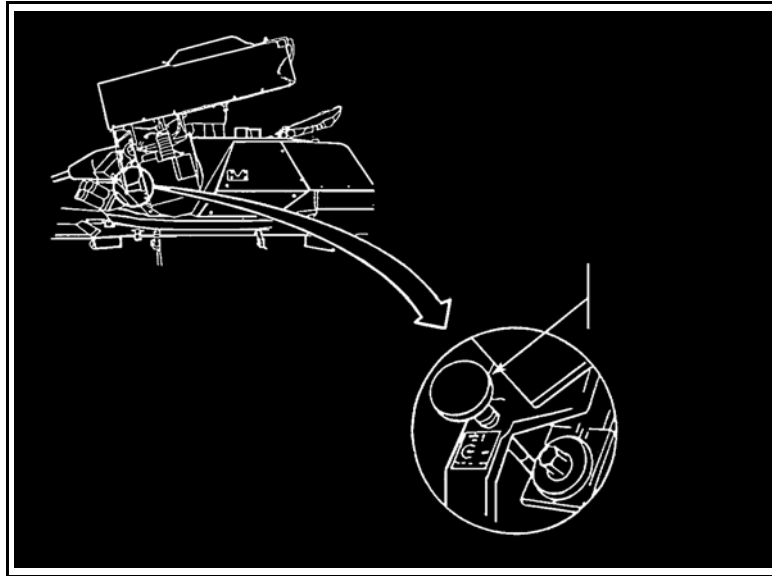

Figure 3. TOW manual lift release handle.
(1) If the connector extends down, turn the master power and turret power ON, move the ARM-SAFE-RESET switch to SAFE, wait 10 seconds, and turn the power back to OFF. Check the connectors again.
(2) If the connectors do not extend, go to the next step.
- a. Pull out and hold the TOW manual lift release handle (Figure 3, page 3-212).